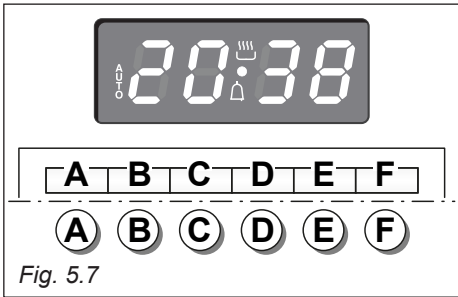

Fig. 5.7
**MODELS WITH ELECTRONIC CLOCK/PROGRAMMER (START-END COOKING)** (figs. 5.7, ..., 5.14)